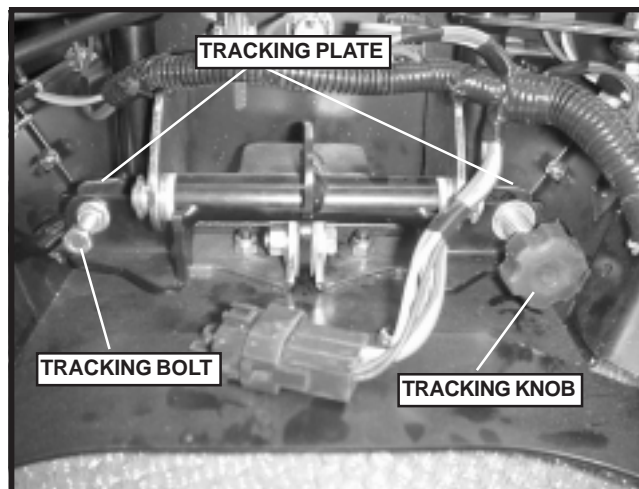

FIGURE 2
7. Adjust the tracking bolt and the tracking knob until they just contact the tracking plate that is welded to the drive levers. (See Figure 2).